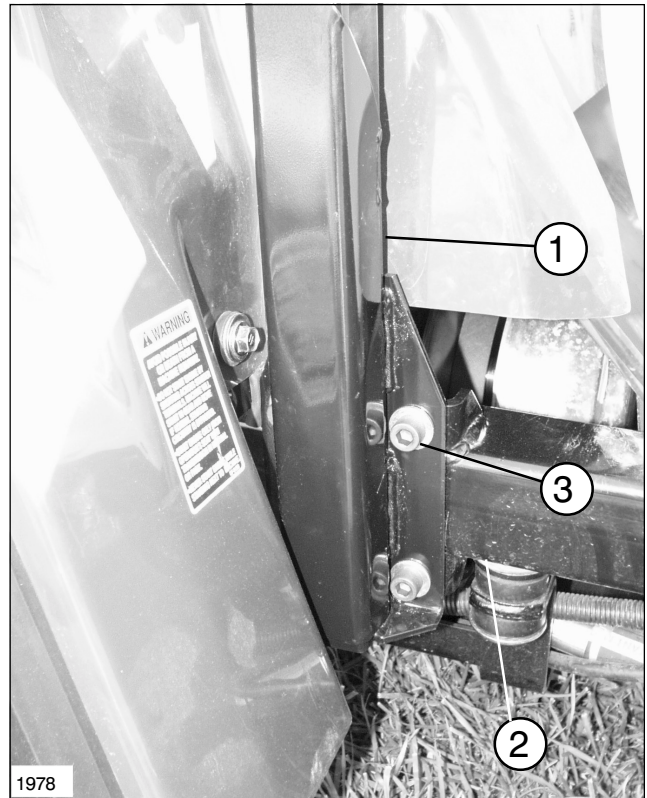

FIG. 2
1. Open shipping carton, remove the shipping clamps and rear ROPS bar. Mount the ROPS bar to the vehicle frame as in FIG. 1 by inserting (8) 1/2" x 1-1/4" hex. socket hd. bolt and flat washers through the ROPS bar and the vehicle frame. Start nuts on bolts by hand. See FIG. 2.